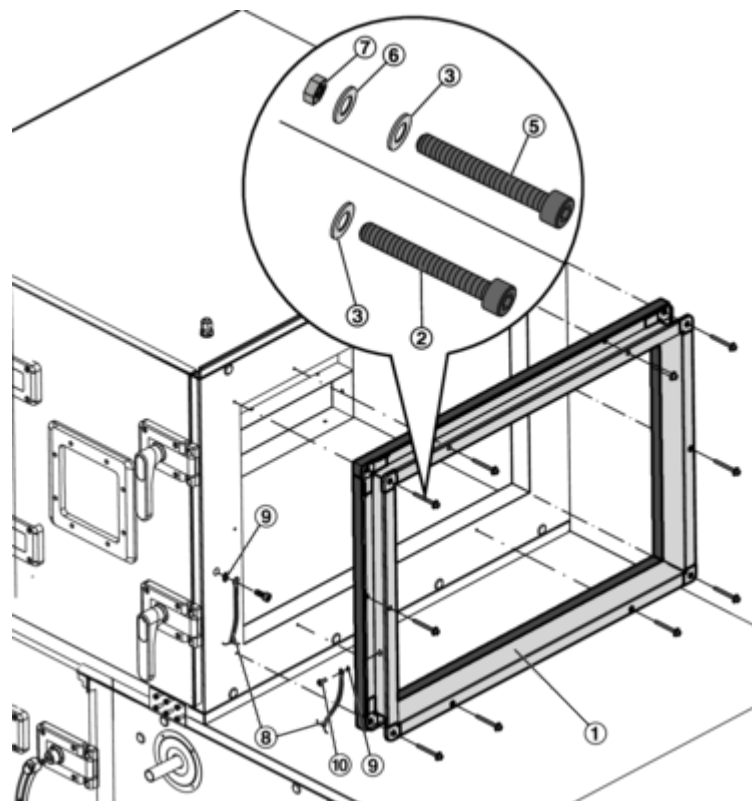

Fig. 17: Attaching the connecting subframe
①	Spigot
②	Thread forming socket cap head screw M6 × 40	A00000055910	A00000055911	–	–
③	Washer Ød 6.4	M332AA3	M333AA3	M332AA3	M333AA3
⑤	Socket cap head screw M6 × 40	–	–	A00000018868	A00000056190
⑥	Washer Ød 6.4	–	–	M332AF9	M333AC3
⑦	Nut M6	–	–	M332AD6	M323AA3
⑧	Earthing cable	A00000026651
⑨	Lock washer, serrated	M332KB4	A00000045194	M332KB4	A00000045194
⑩	Pan head screw M6 × 12	M852AC6
⑪	Socket cap head screw M6 × 30	M852AC4
- ▶ Place the connecting subframe (Fig. 17 /1) with the perimeter seal facing the AHU and fix it with thread forming screws (Fig. 17 /2), rubber seals (Fig. 17 /4) and washers (Fig. 17 /3).
If the connecting subframe is to be attached to a multileaf damper, fix it with the supplied socket cap screws (Fig. 17 /5), washers (Fig. 17 /3 and 6) and nuts (Fig. 17 /7).
- ▶ Fix one eye of the earth cable (Fig. 17 /8) with a pan head screw M6 × 12 (Fig. 17 /10) and a serrated lock washer (Fig. 17 /9) to the noise insulating connector.
- ▶ Fix the other eye of the earth cable with a socket cap head screw M6 × 30 (Fig. 17 /11) and a serrated lock washer through the panel sheet to the tubular frame of the air handling unit.